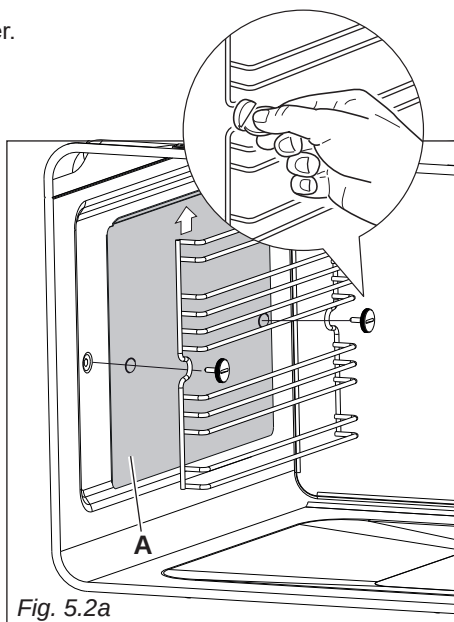

Fig. 5.2a
- Assemble the wire racks to the oven walls using the 2 screws (fig. 5.2a).
In the models with catalytic panels supplied, interpose the catalytic panels "A" with the arrow up (fig. 5.2a).
- Screw the side racks onto the oven wall (interposing the catalytic panels if supplied) (fig. 5.2a).
- Remove the side racks by unscrewing the fixing screws (fig. 5.2a).